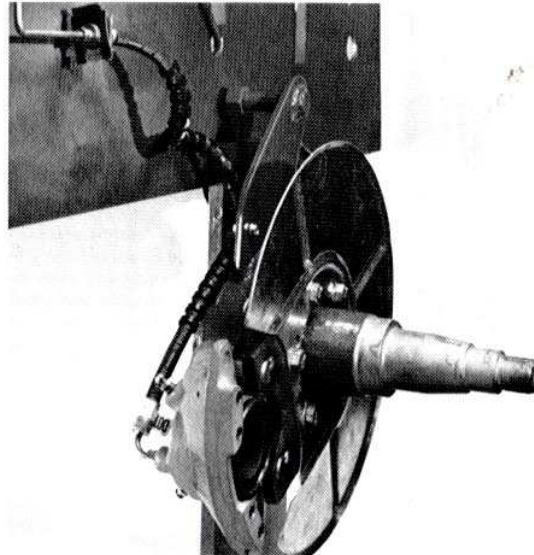

Fig. 18
2. Disconnect flexible hose from steel brakeline. Hold fitting on flexible brake line stationary with open end wrench as shown in Fig. 18. Using "tube nut wrench" rotate tube nut off of flexible hose. Remove clip securing brake hose to bracket.